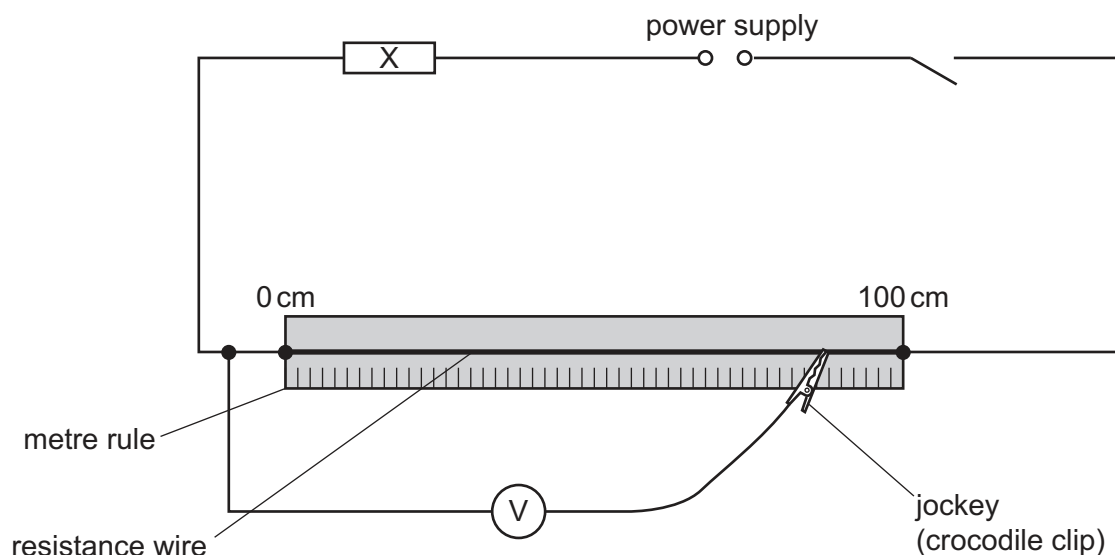

Fig. 4.1
The supervisor needs to set up the circuit shown in Fig. 4.1
3. These will be used to construct the circuit shown in Fig. 4.1. One crocodile clip must be attached to the end of a flying wire to act as a jockey as shown in Fig. 4.1.
The supervisor must ensure that the apparatus is in the configuration shown in Fig. 4.1. If cells are used, they must be checked and replaced if necessary.